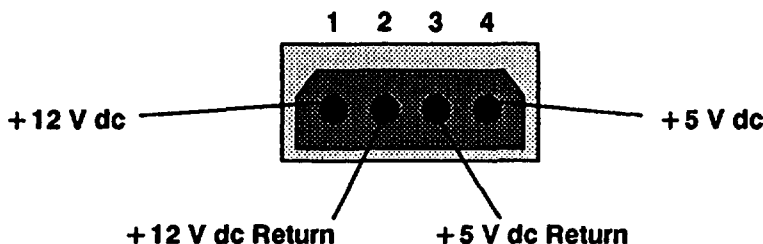

Figure 4-13. Disk Drive Power Supply Input Connector (P2 or P3)
5. Use the voltmeter to test the voltages at the power supply input connector to the Winchester drive. Unplug P2 or P3 to check the voltages. Figure 4-13 shows the connector voltages.